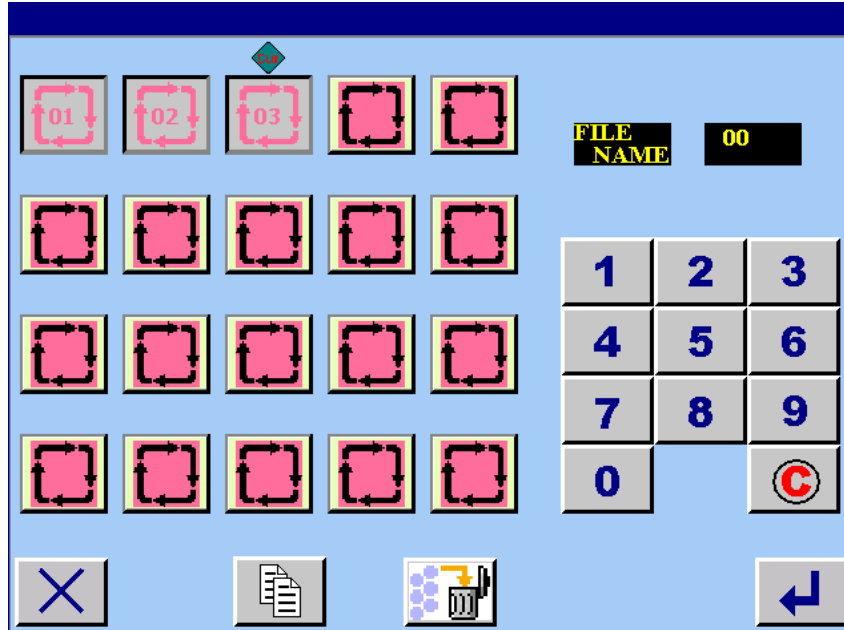

figure 10.14
- 1 Press the register continuous stitching file button s which need to be deleted, it will display as figure 10.14 shown.